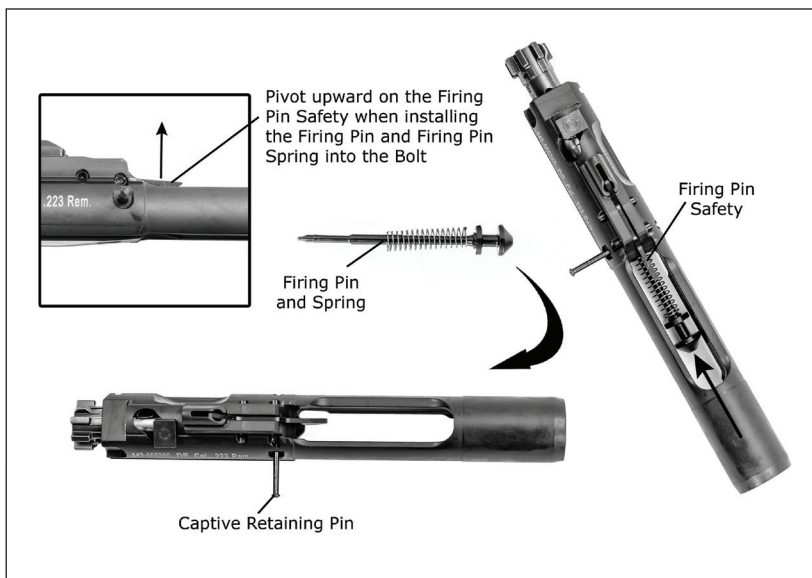

Fig. 35 – Installing the Firing Pin
- c. Ensure that the captive firing pin retaining pin is drifted completely out to the left-hand side of the bolt carrier. Insert the firing pin spring onto the firing pin, pivot upwards on the spring loaded firing pin safety, and insert the firing pin and spring into the bolt carrier's firing pin channel until the firing pin reaches its limit of forward travel (Fig. 35)